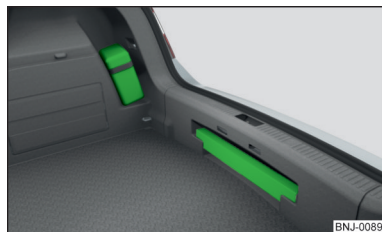
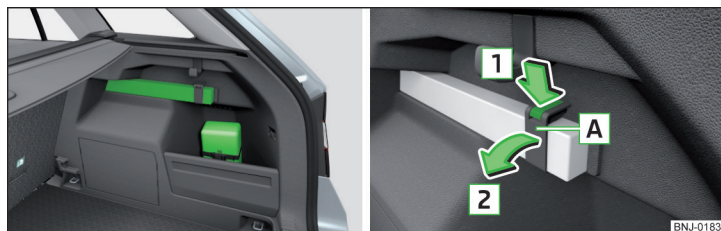

Fig. 175
Fig. 176 Placing the first aid kit and the warning triangle - version 2 / release the retaining clip
The first-aid box can be attached by a strap to the right-hand side of the boot » Fig. 175 or » Fig. 176.
The warning triangle can be stored in the rear wall trim panel » Fig. 175.
The warning triangle can be placed in the panel at the right hand side of the luggage compartment and secured to the fastening strap » Fig. 176.
- Press the latch on the connector in the direction of arrow **1** » Fig. 176.